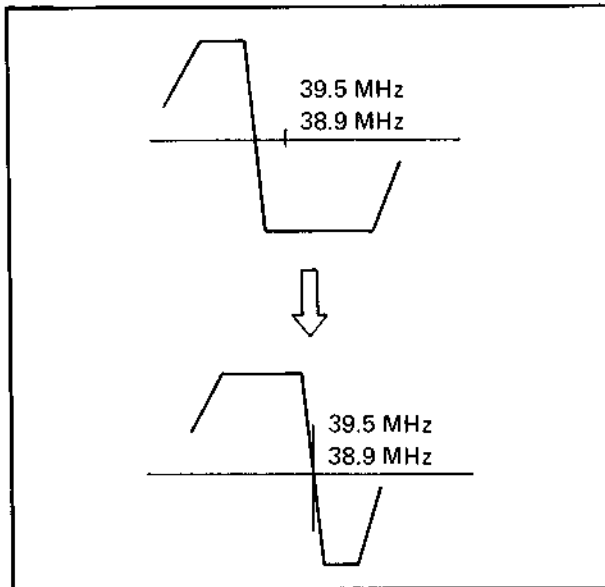

Fig. 6-54
4. Adjust the core of T402 so that the 39.5 MHz (HR-3330EK), 38.9 MHz (HR-3330EG) marker comes to the center of the "S" curve as shown in Fig. 6-54.